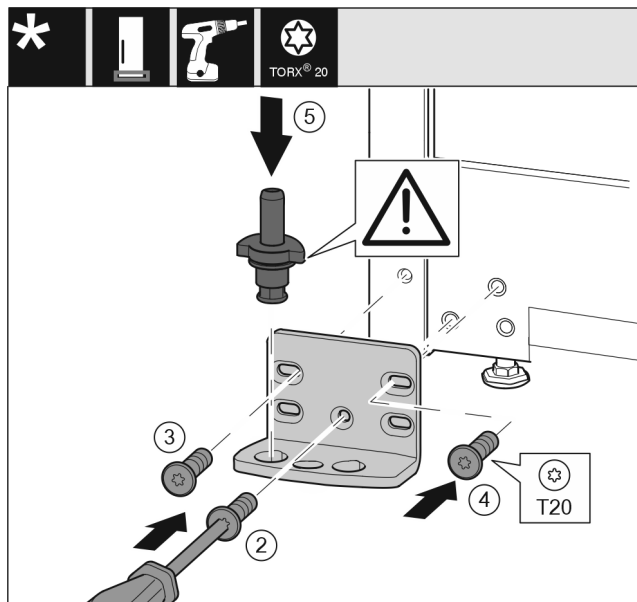

Fig. 17
- ▶ Attach the swap bearing block onto the other side and screw it on using a screwdriver. Start with the screw Fig. 17 (2) at the bottom center.
- ▶ Tighten screw Fig. 17 (3) and screw Fig. 17 (4).
- ▶ Insert the bearing pin Fig. 17 (5) completely. In the process, make sure that the latching cam shows towards the rear.